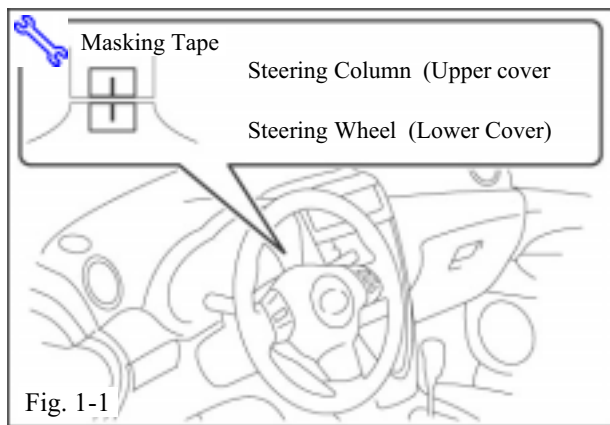

Fig. 1-1
(1) Turn the steering wheel to its straight position.
(2) Apply masking tape on the top center of the steering wheel and steering column upper cover. (Fig. 1-1)
(3) Draw a line on the masking tape as shown in the illustration. (Fig. 1-1)